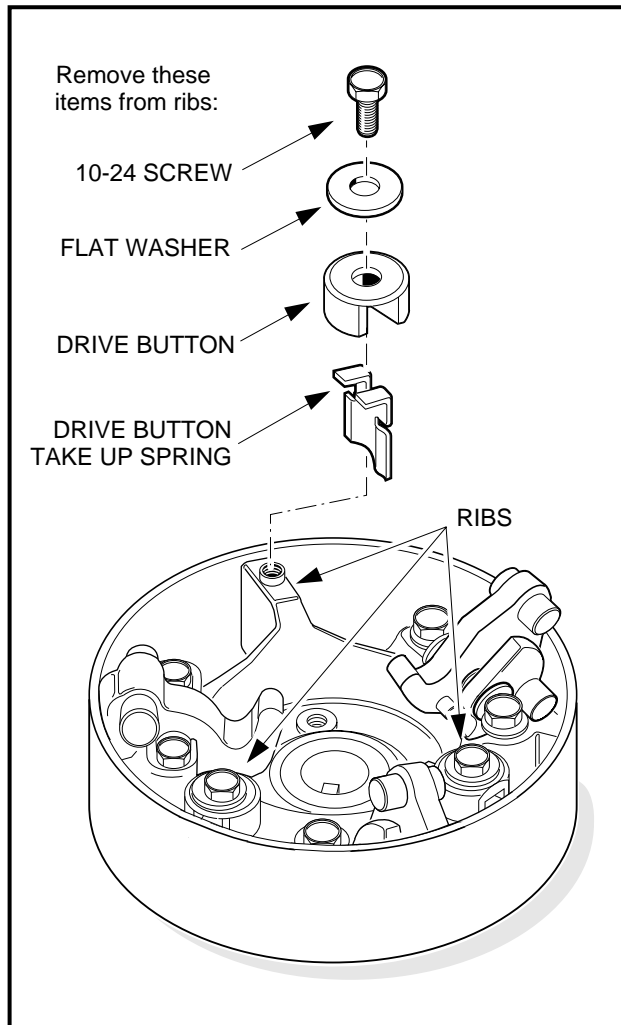

Figure 17-8 Drive Button Mounting
4. Remove the drive buttons (**Figure 17-8, Page 17-8**).
- 4.1. Remove the screws, flat washers, drive button take-up spring, and drive buttons as shown (**Figure 17-8, Page 17-8**).
14. While compressing the take-up spring, install the drive button over the rib and take-up spring as shown (**Figure 17-8, Page 17-8**).